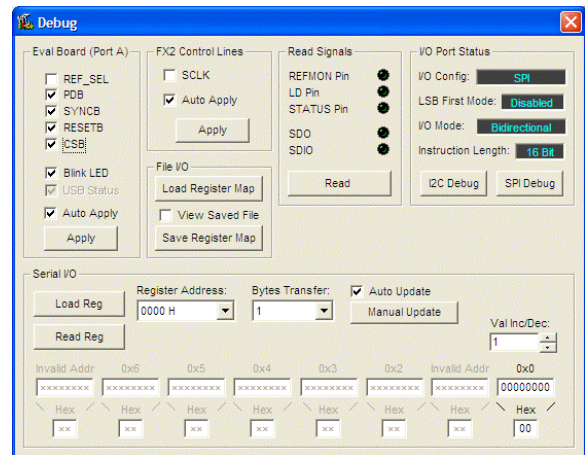
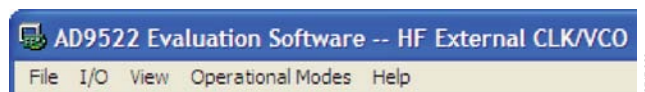

Figure 23. AD9522 Debug Window
Figure 24. Menu Bar
The debug window shown in Figure 23 is accessed by clicking **Debug** from the **View** menu on the main window (see Figure 24).
7. From the **View** menu on the main window (see Figure 24), click **Debug Window**. Click the **I2C Debug** button. The window shown in Figure 29 appears.